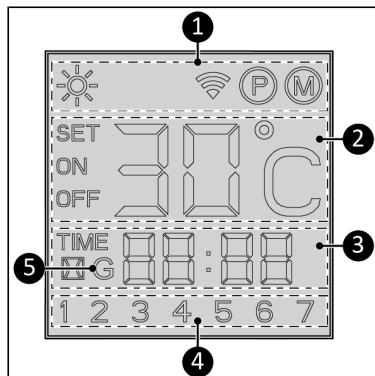

Figure 24.
Status indication (Figure 24, pos. 1):
Temperature indication (Figure 24, pos. 2):
Time indication (Figure 24, pos. 3):
Day indication (Figure 24, pos. 4):
Wi-Fi indication (Figure 24, pos. 5):